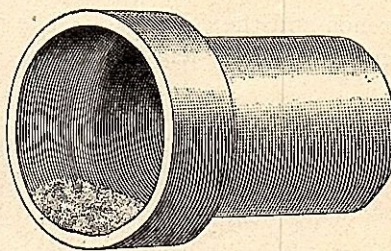
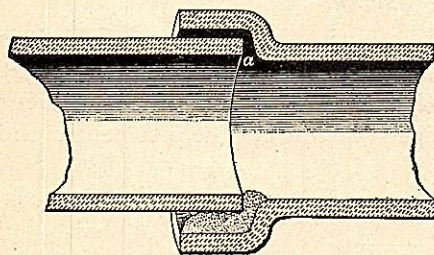

FIG. 27
FIG. 28
**43.** To make good joints in earthenware pipes, place some cement (half Portland cement and half clean sand) in the bottom of the socket, as shown in Fig. 27. Then enter the spigot end of the pipe about to be laid into the socket, as shown in Fig. 28. When the spigot end is pushed hard against the socket shoulder at *a*, let it down on the cement. Beat it down gently with a wooden tool, the hammer handle, for instance, until it is in the center of the socket. This presses the superfluous cement out of the socket and insures the bottom, which is the most important part of such a joint, being tight. The